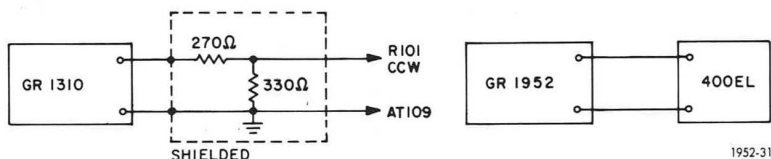

Figure 6-7. Low-Pass, High-Q Section Test Set-Up.
a. Disconnect the lead from the end of R101C going to AT102 and establish the set-up of Figure 6-7.